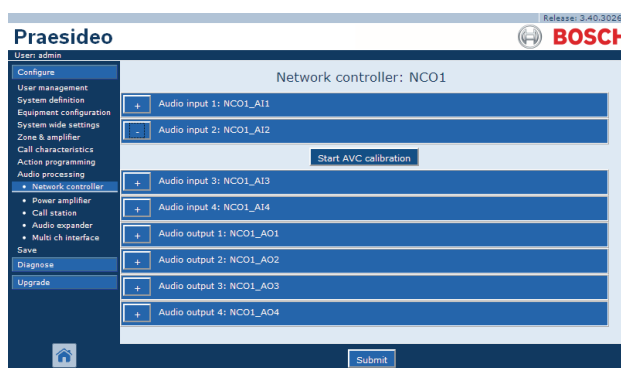

figure 50.2: AVC calibration button
- 9 Go to the *Audio processing* page of the audio input to which the sensing microphone is connected. A screen similar to the one in figure 50.2 appears.